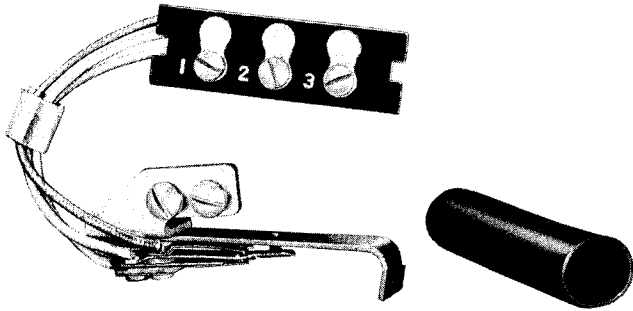

Fig. 1—P-372083 Alarm Switch Assembly
2.02 The P-372083 alarm switch assembly (Fig. 1) consists of a single-pole double-throw contact spring pile-up mounted on a bracket and wired to three terminals on a terminal block.
2.04 Connections are made to the terminal block as determined by the local operating company. After the connections are made, slide the insulation sleeving, shown in Fig. 1, over the terminal block to prevent shorting.